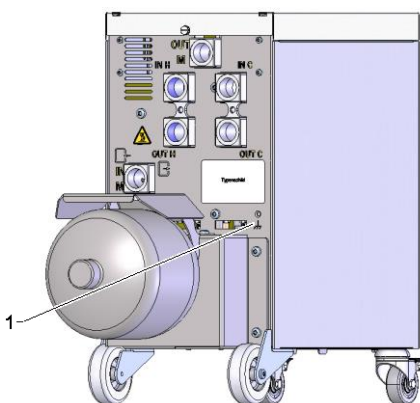

Fig. 17: Functional grounding
Large emitters of electromagnetic disturbance near the switching unit can influence its operation. In this case, the switching unit casing must be earthed with a grounding strap (for functional grounding connecting point, refer to (1) Fig. 17).